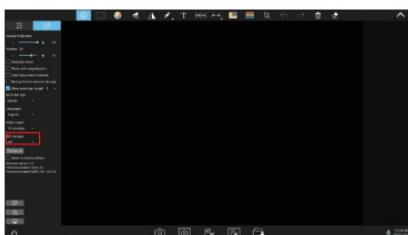

Figure 1
3. Click the icon “” at the bottom left, Open WLAN (as in Figure 1 and 2);